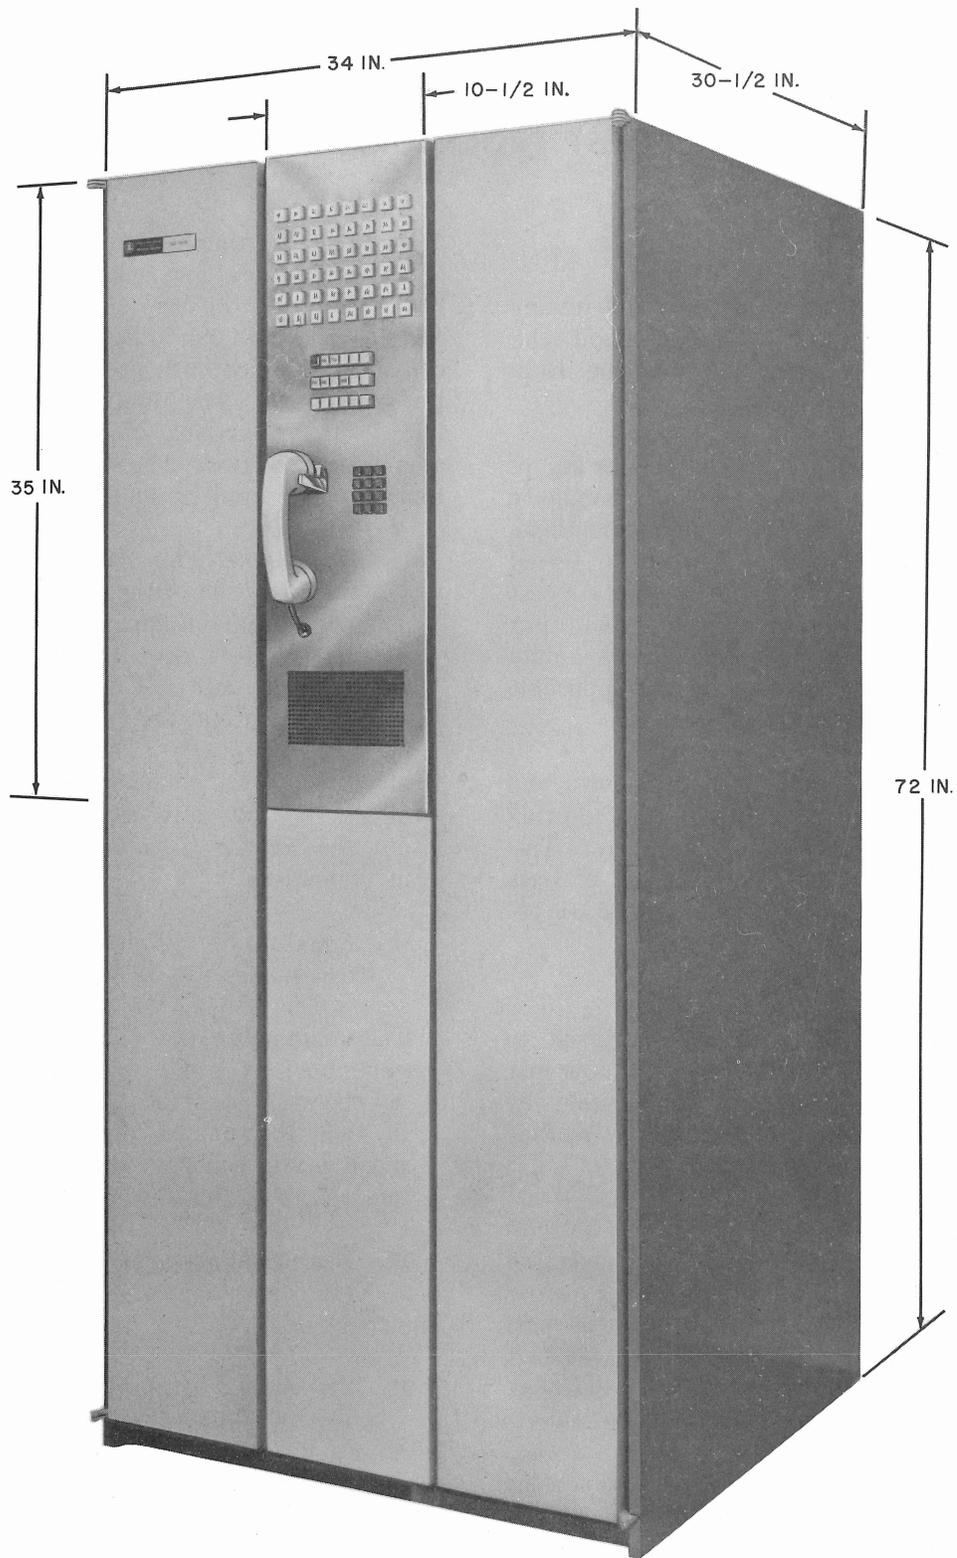

Fig. 1—Data Auxiliary Set 804L-Type Mounted in a KS-20093 L1 Cabinet
**1.07** Data Auxiliary Set 804L-type is mounted in the center door of a KS-20093 L1 cabinet as shown by Fig. 1.